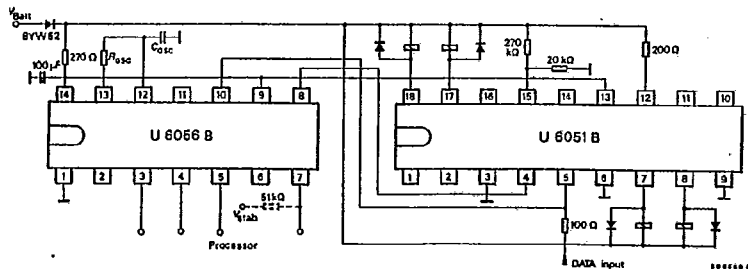

Fig. 17
- Combinations with U 6051B/U 6052B and U 6056 B, Figs. 17 and 18.